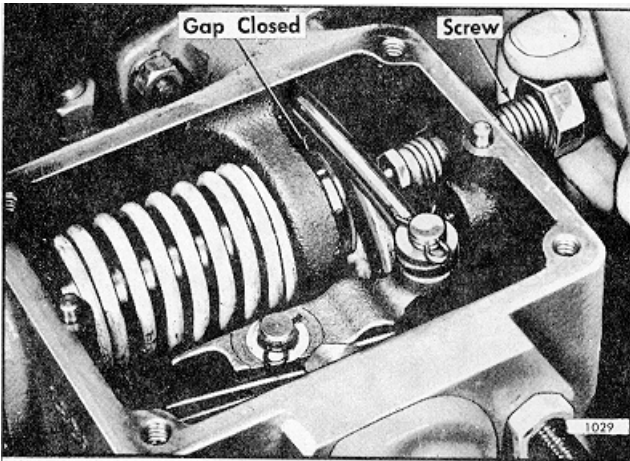

Fig. 6 - Closing Modulator Gap with Special Screw
- C Temporarily install the cap screw (1/2"-13 x 2") into the front of the control housing and thread the screw inward until the gap between the low speed cap (61) and high speed spring plunger (39) just closes, Fig 6. Be careful that the high speed spring plunger is not moved.